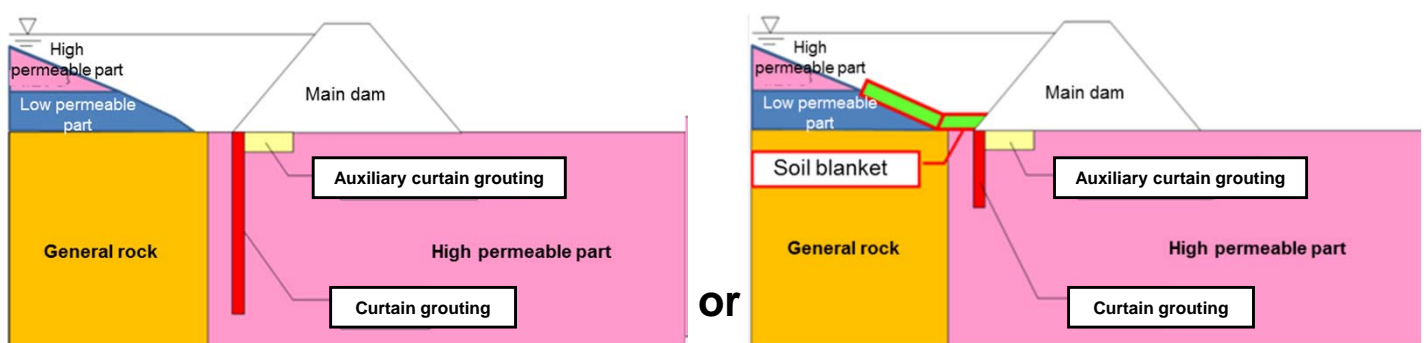

Fig.3-2 Kin Dam
- Kin Dam in Okinawa Pref.(Fig.3-2)